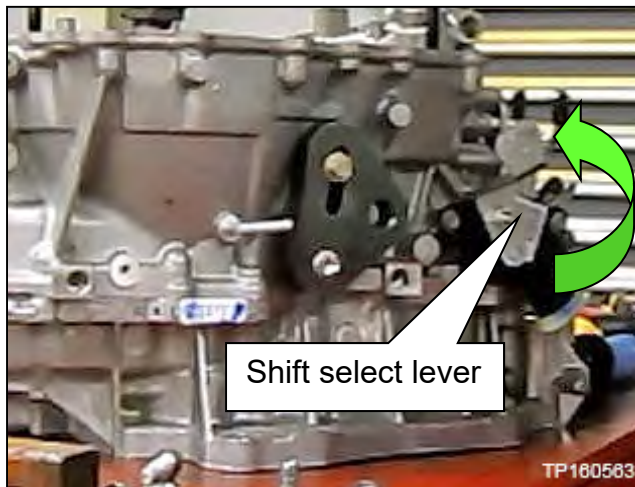
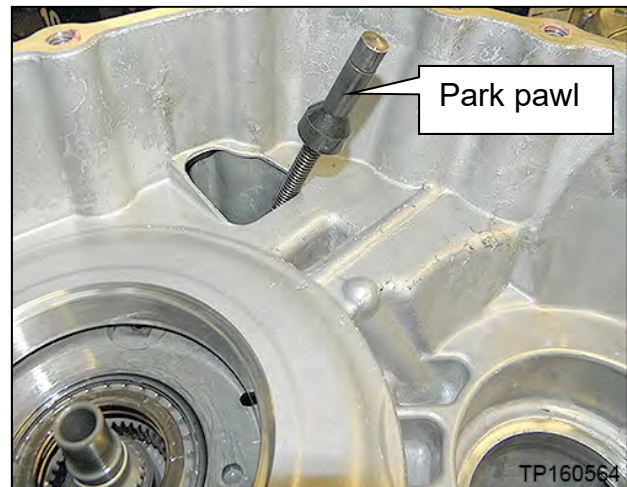

Figure 85
Figure 86
65. Rotate the shift select lever counter clockwise to the “L” range position (Figure 85), so that the park pawl is at its lowest position (Figure 86).